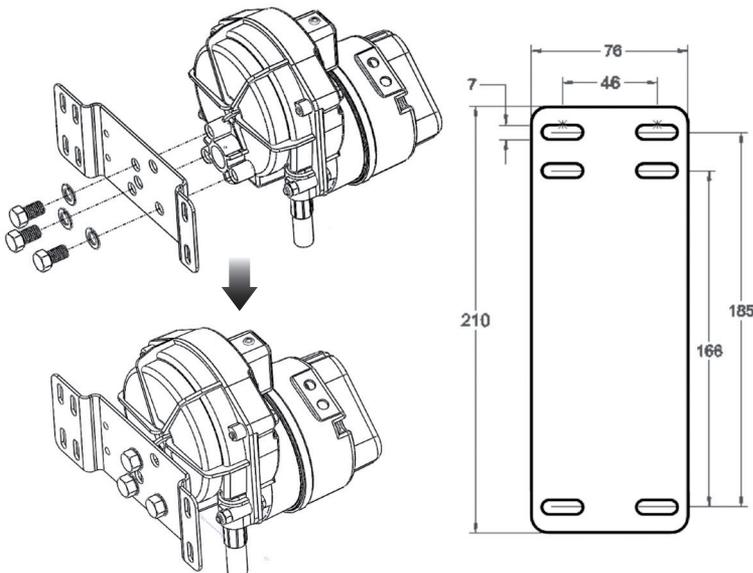

Fig B3 - Mounting plate drilling dimensions
- iii) Mark out the fixing pattern from the drive base plate and drill appropriate sized pilot holes into the mounting structure (Fig B3). The mounting holes are suitable for $\frac{1}{4}$ in or 6mm fasteners.